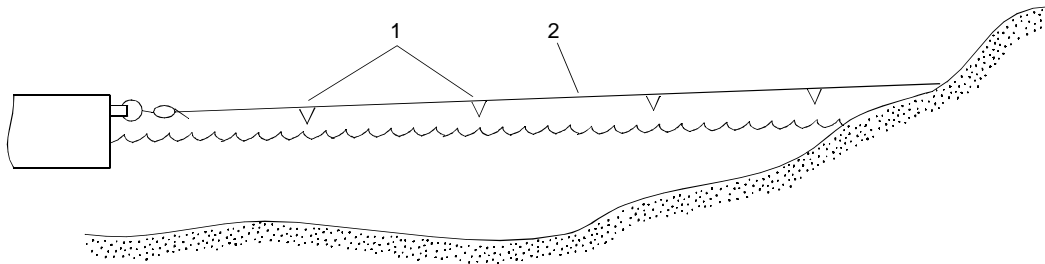

Figure 18. Warning Flags
8. Place warning flags (figure 18, item 1) on mooring lines (figure 18, item 2) to prevent equipment and personnel from running into raised mooring lines (figure 18, item 2).